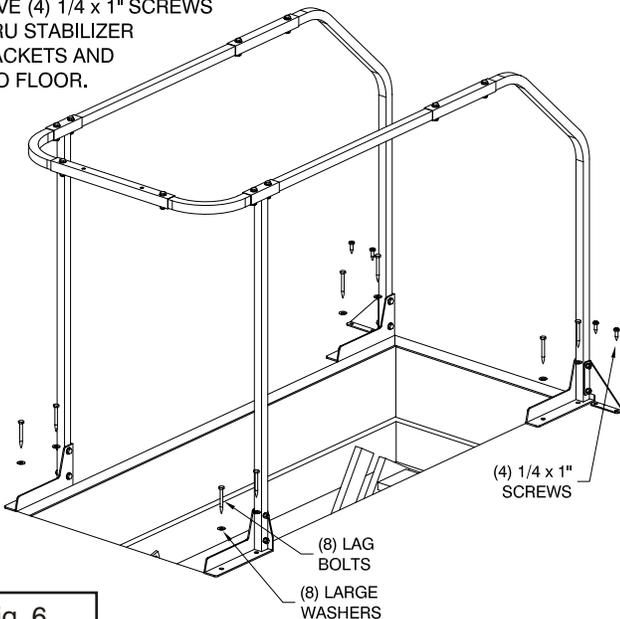

Fig. 6
6. Install the lag screws through the floor bracket and into the pilot holes (Fig. 6). Tighten firmly, but don't over-tighten. Drive $1/4 x 1"$ screws thru the stabilizer brackets into the floor using a phillips driver and tighten snug.